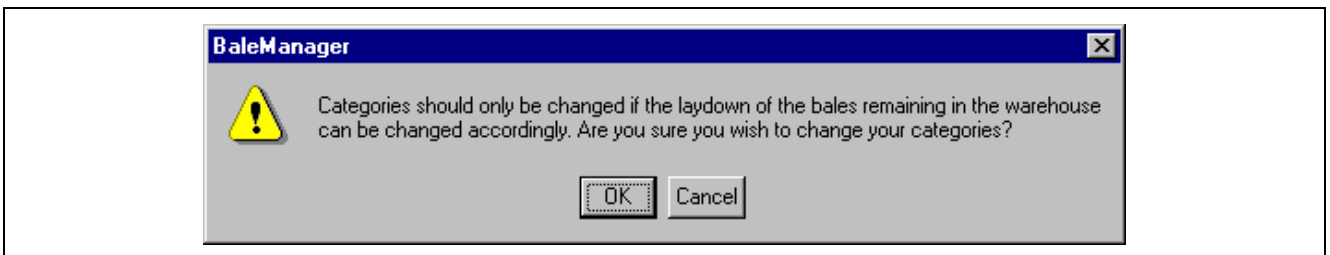

Fig. 6-63 Category Warning Screen
20.3 A warning screen appears that makes you aware of the impact that changing the categories does have (Fig. 6-63).